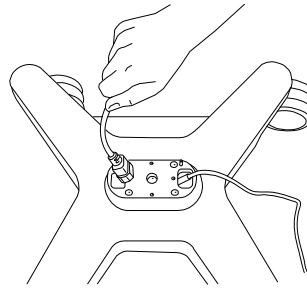

Figure 1 Insert AC power cord (shown without column attached).
- 2 Insert the AC power cord (J) through the top of the base:
- Insert into the opening opposite the DC power supply cord. See Figure 1.